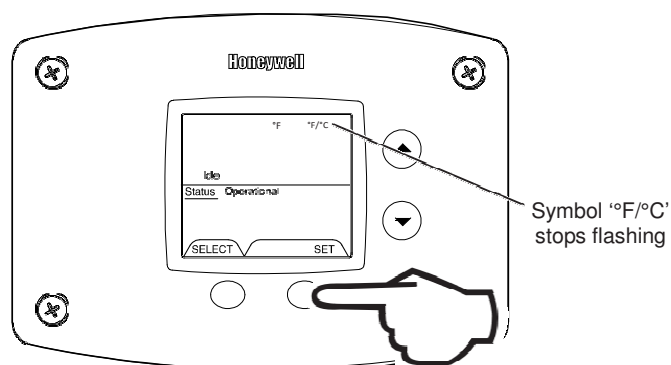

Fig. 23
4. Press 'SET' button to confirm °F or °C format. F°/ °C will stop flashing. Setpoint display will appear in the format selected (°F or °C) in 10 seconds (Fig. 23).